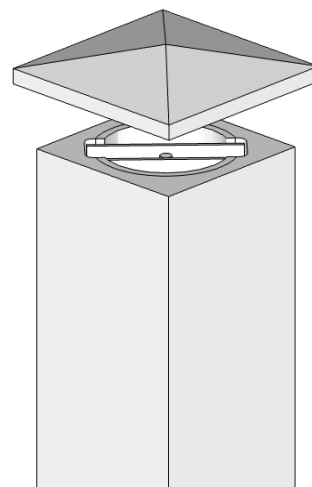

Figure 3
- Glue the post cap to top of post with a $\frac{1}{4}$ " bead of PL Premium construction adhesive. Post cap conceals newel post mounting hardware. See figure 3.